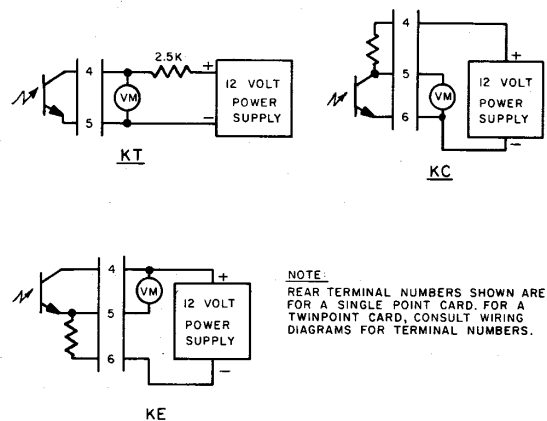

FIG. 8
5.3.11 To test opto-isolator outputs, an external circuit must be connected (see figure 8). For KT, a resistor, (2.5K), to 12VDC may be used. It may be connected as either a collector pull-up or as an emitter follower. Connect a voltmeter across the collector and emitter to determine that the opto-isolator is functioning according to its operational mode. For KE and KC, the resistor is on the sequence card. Connect the power supply to the proper terminals and the voltmeter across the transistor.